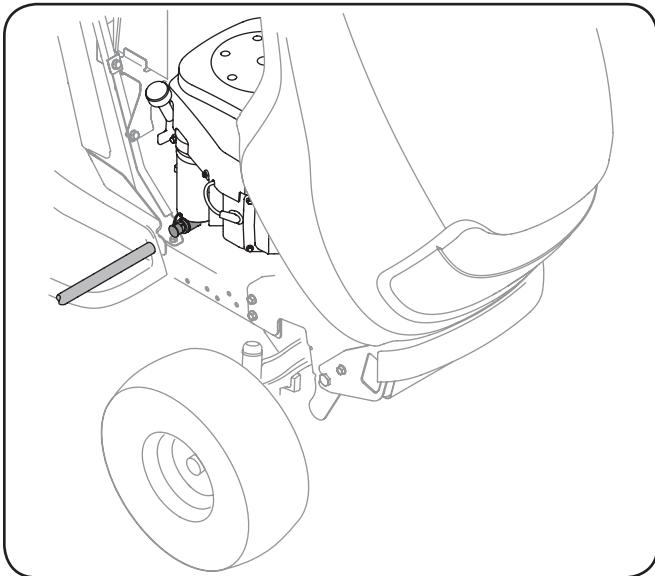

Figure 6-1
- Pop open the protective cap on the end of the oil drain valve to expose the drain port. See Fig 6-1.